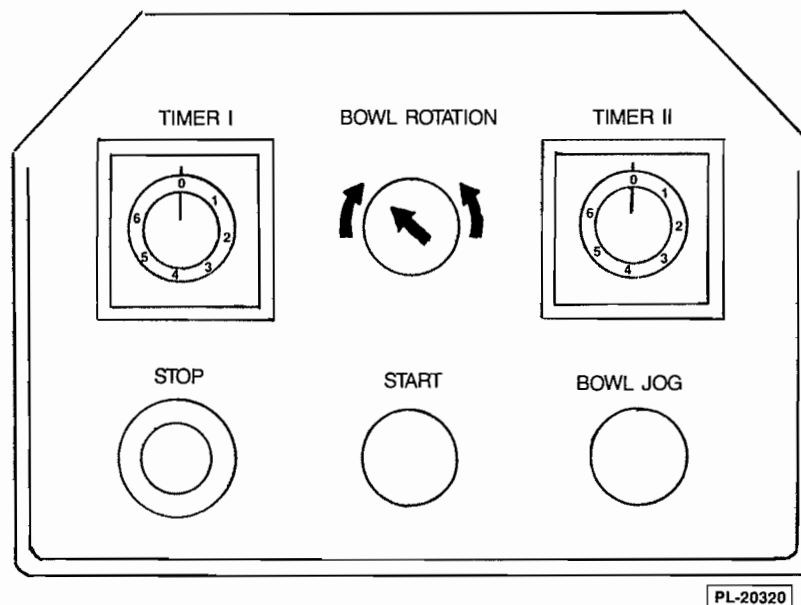

Fig. 3
- BOWL ROTATION** — Rotate the knob so the center arrow points to the clockwise arrow for most mixing operations (Fig. 3). There is also a neutral (straight up) position and a counterclockwise rotation position.